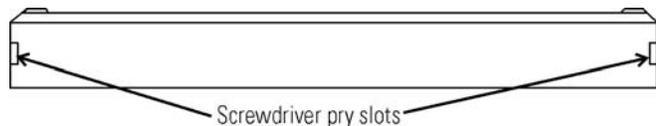

Figure 4-9, Front Cover Plate Below the Door
2. Remove the front cover plate below the door. There are small flatblade screwdriver pry slots on each end of the plate to help remove it. See Figure 4-9.